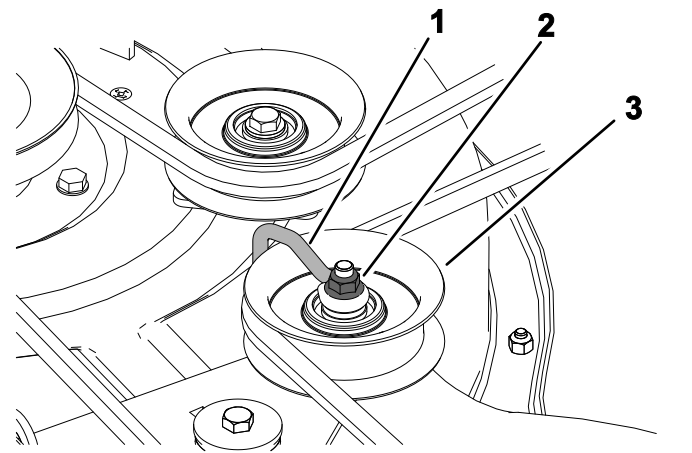

Figure 51
5. Loosen the nut securing the wire form to the idler pulley (Figure 51).
9. Tighten the nut securing the wire form to the idler pulley (Figure 51).
**Note:** Position the wire form against the idler arm as shown in Figure 51.